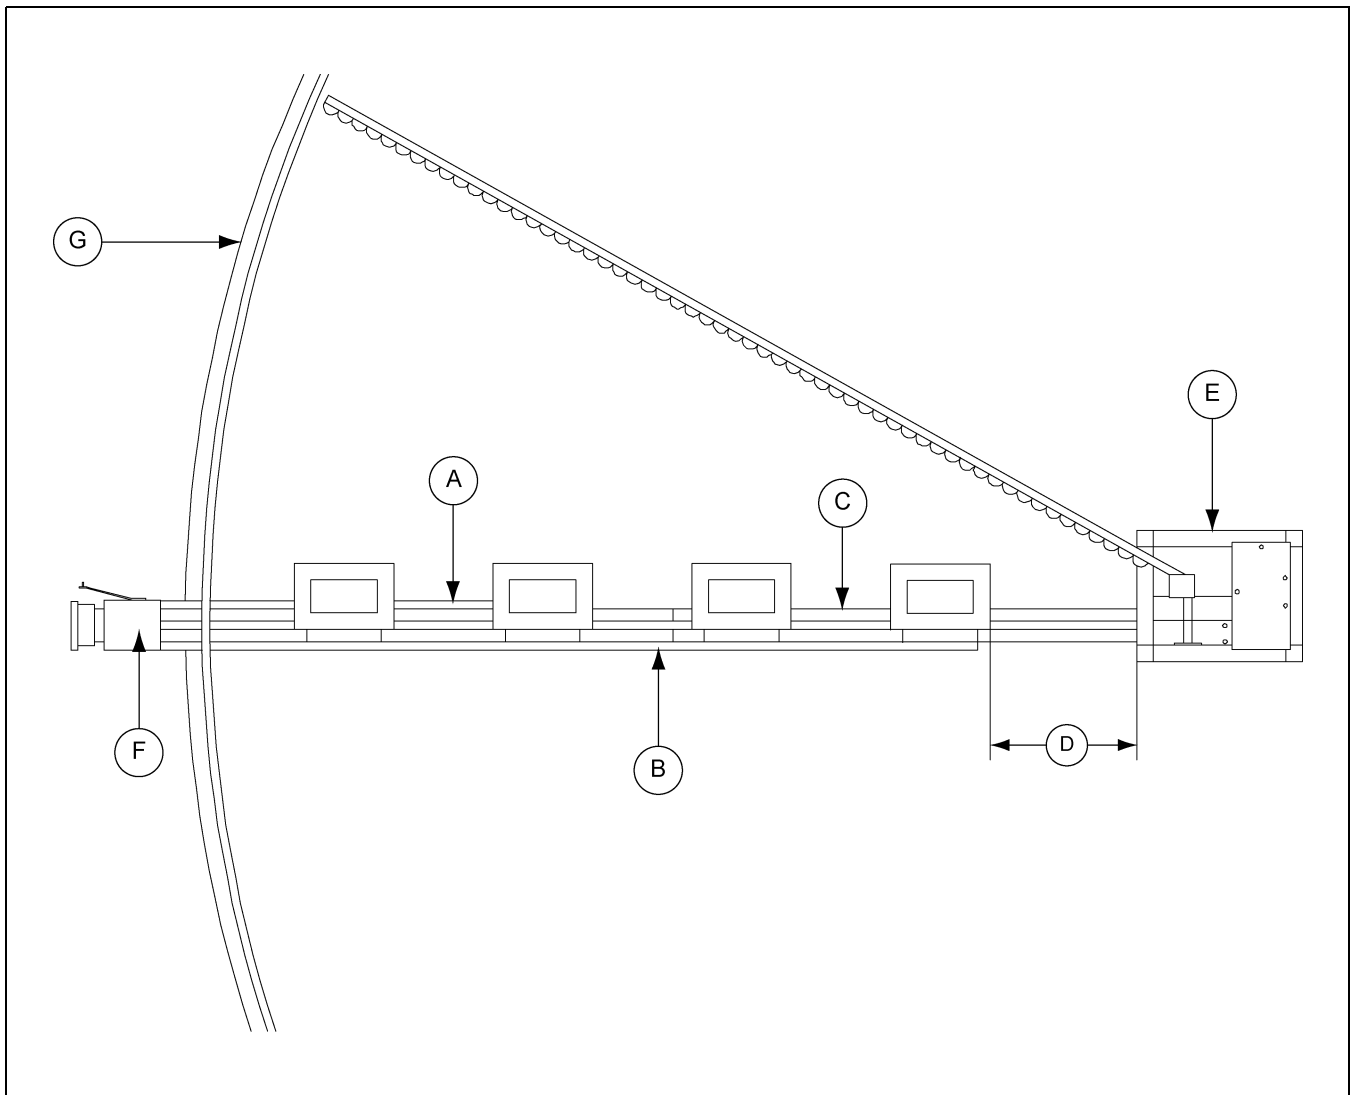

Figure 3B
- Use the following illustration (*Figure 3B*) and the chart *on Page 14* to determine the necessary pipe lengths.
The labels "A", "B", "C" and "D" correlate with the same labels in Figure 3B on Page 13.